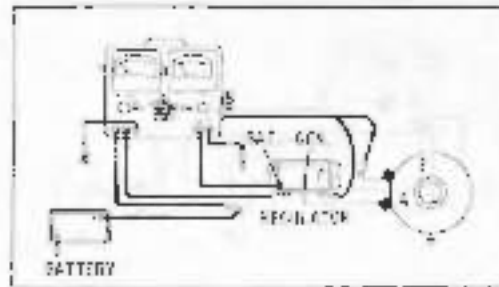

Figure 51-10
E. TESTING VOLTAGE CONTROL UNIT SETTING (FIG. 51-10)
Same connections are used as in previous Test D except move Positive voltmeter lead to regulator battery "BAT" terminal and remove grounded lead at the field control variable resistor and connect to regulator field "F" terminal. (See Fig. 51-10)
Use same connections as previous Test E, Voltage Control Test. (See Fig. 51-10).